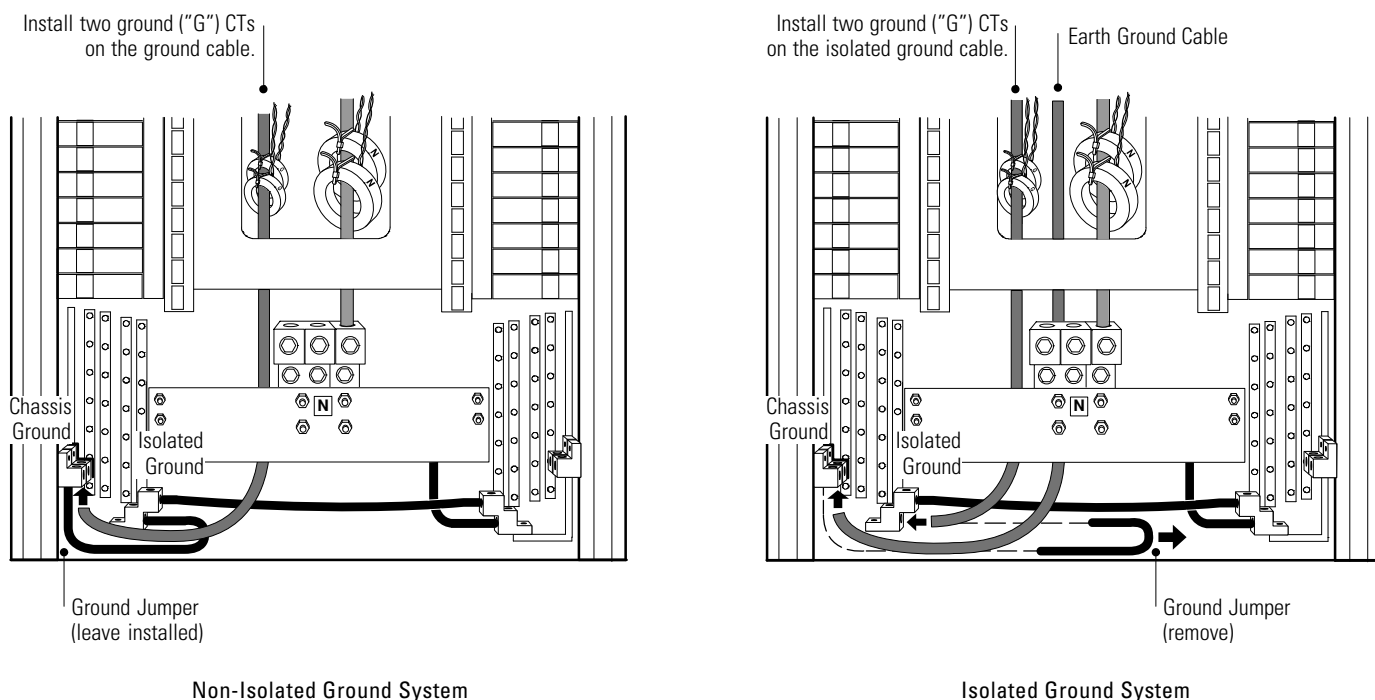

Figure 12. Installing the Ground System (Single 800A Main Input Lug, Single 400A Main Input Breaker, and Single 600A Main Input Breaker)
- 8. Single 800A Main Input Lug, Single 400A Main Input Breaker, and Single 600A Main Input Breaker configurations.** The cabinet has a ground jumper installed from the chassis ground to the isolated ground busbar. Adjust the installation for the required ground system (see Figure 12, and Table 2 and Table 3 on page 19):
NOTE Figure 12 shows top entry wiring, one panelboard, optional neutral CTs for measured neutral current, and front access installation.